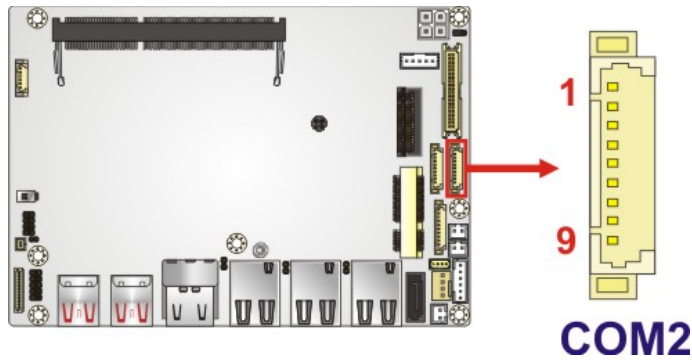

Figure 3-16: RS-232 Serial Port Connector Location
- CN Location:** See **Figure 3-16**